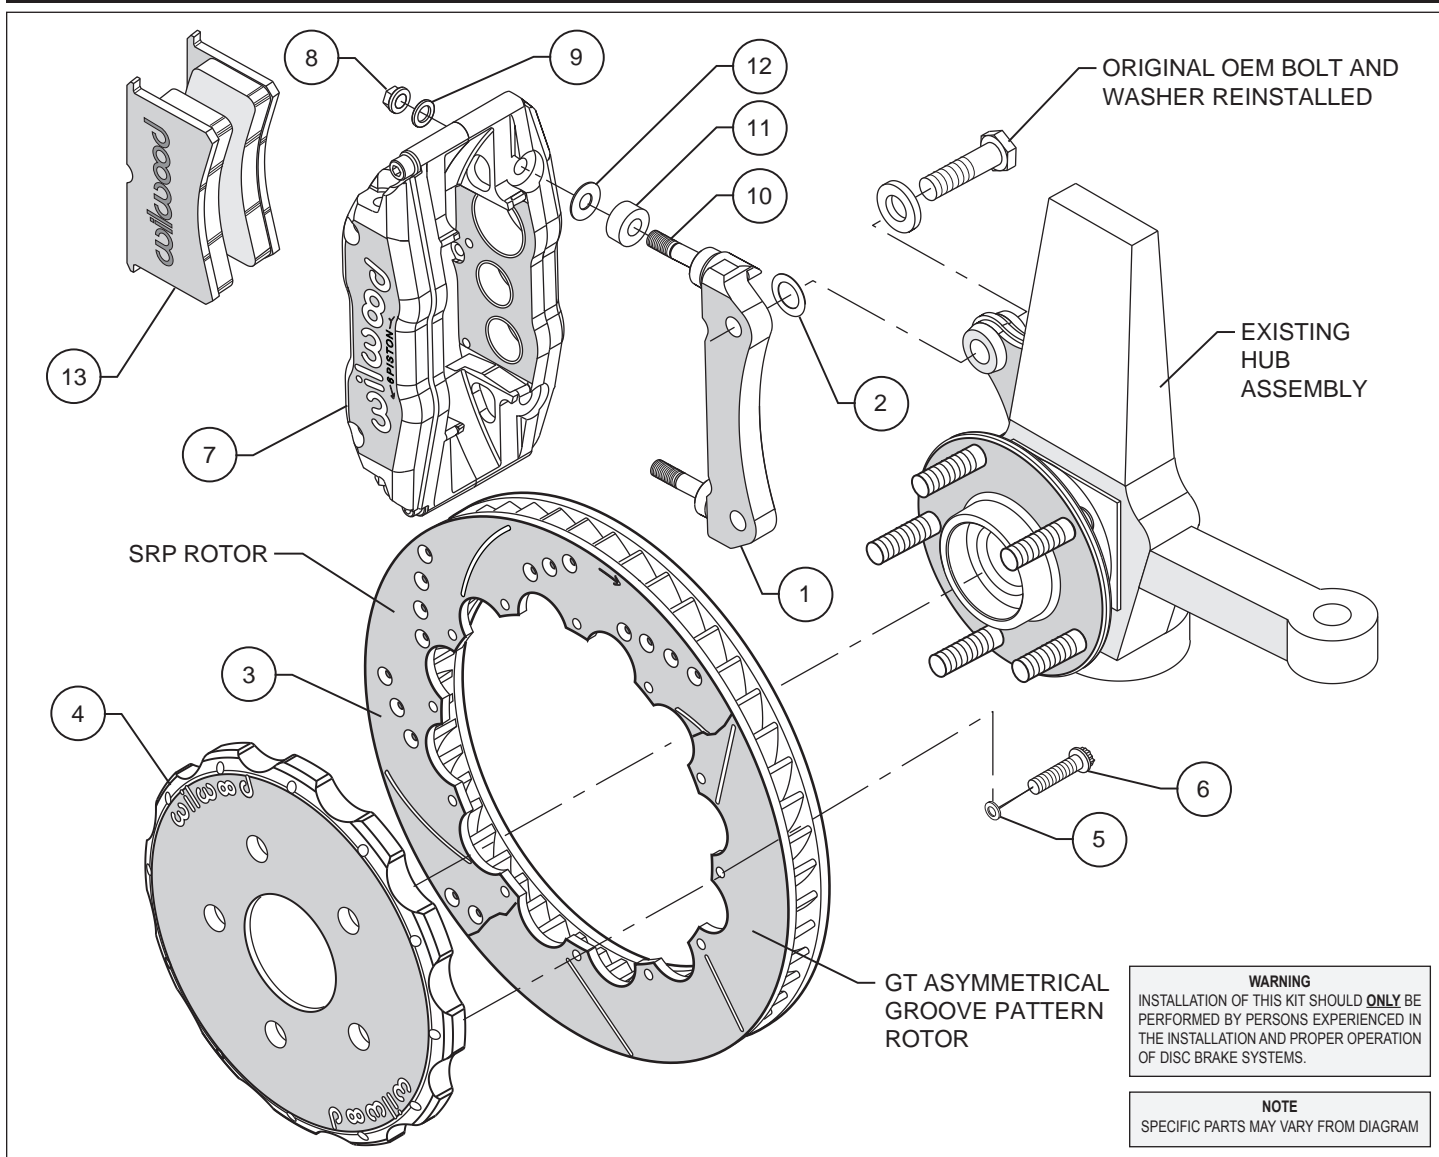
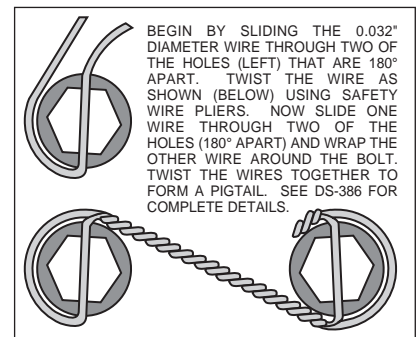

Figure 1. Typical Installation Configuration
Figure 3. Safety Wire Diagram
- Assemble the rotor (3) to the hat (4) with the bolts (6) and washers (5) provided in the configuration pictured in Figure 1. Be sure all bolts thread in smoothly and are snug. Then, torque all bolts in an alternating sequence to 85 **in-lbs**. The rotor mounting bolts (6) must be lockwired using standard 0.032 inch diameter stainless steel safety wire as shown in Figure 3. Please refer to Wilwood's data sheet DS-386 (available at www.wilwood.com/pdf/ds386.pdf) for complete safety wire installation instructions.
- Install spacer (11) and one shim (12) over each stud (10) on the radial mount bracket (1). Slide the caliper (7) in place over the studs and rotors and install the washer (9) and lock nut (8) to hold the caliper in place. The caliper bleed screws should be pointing up. Snug the lock nuts (8) and check that the rotor (3) is centered in the caliper (7). Add or subtract .035" shims (2) as necessary between the mount bracket and the spindle to center the caliper.
- Remove the caliper center bridge pad retainer bolt, nut, and tube from the caliper. Slide the brake pads (13) into place. They should install easily without interference. Check that the outside radius of the brake pad is aligned with the outside diameter radius of the rotor face. Add or subtract shims (12) between the caliper (7) and spacer (11) on the mount bracket (1) to gain the proper alignment. Reinstall the center bridge pad retainer tube, bolt, and lock nut. The locknut should be snug without play in the bolt or tube. Be cautious not to over tighten.
- Once all clearances have been checked, remove the wheel, caliper, hat, and rotor from the spindle and hub. Secure the caliper mounting bracket (1) to the spindle using red *Loctite*® 271. Torque the bolts to 65 ft-lbs. Reinstall the hat and rotor assembly and again use several lug nuts to hold it in place. Lubricate caliper mounting studs and nuts with lightweight oil, reinstall the caliper, torque the caliper nuts (8) to 30-35 ft-lbs.